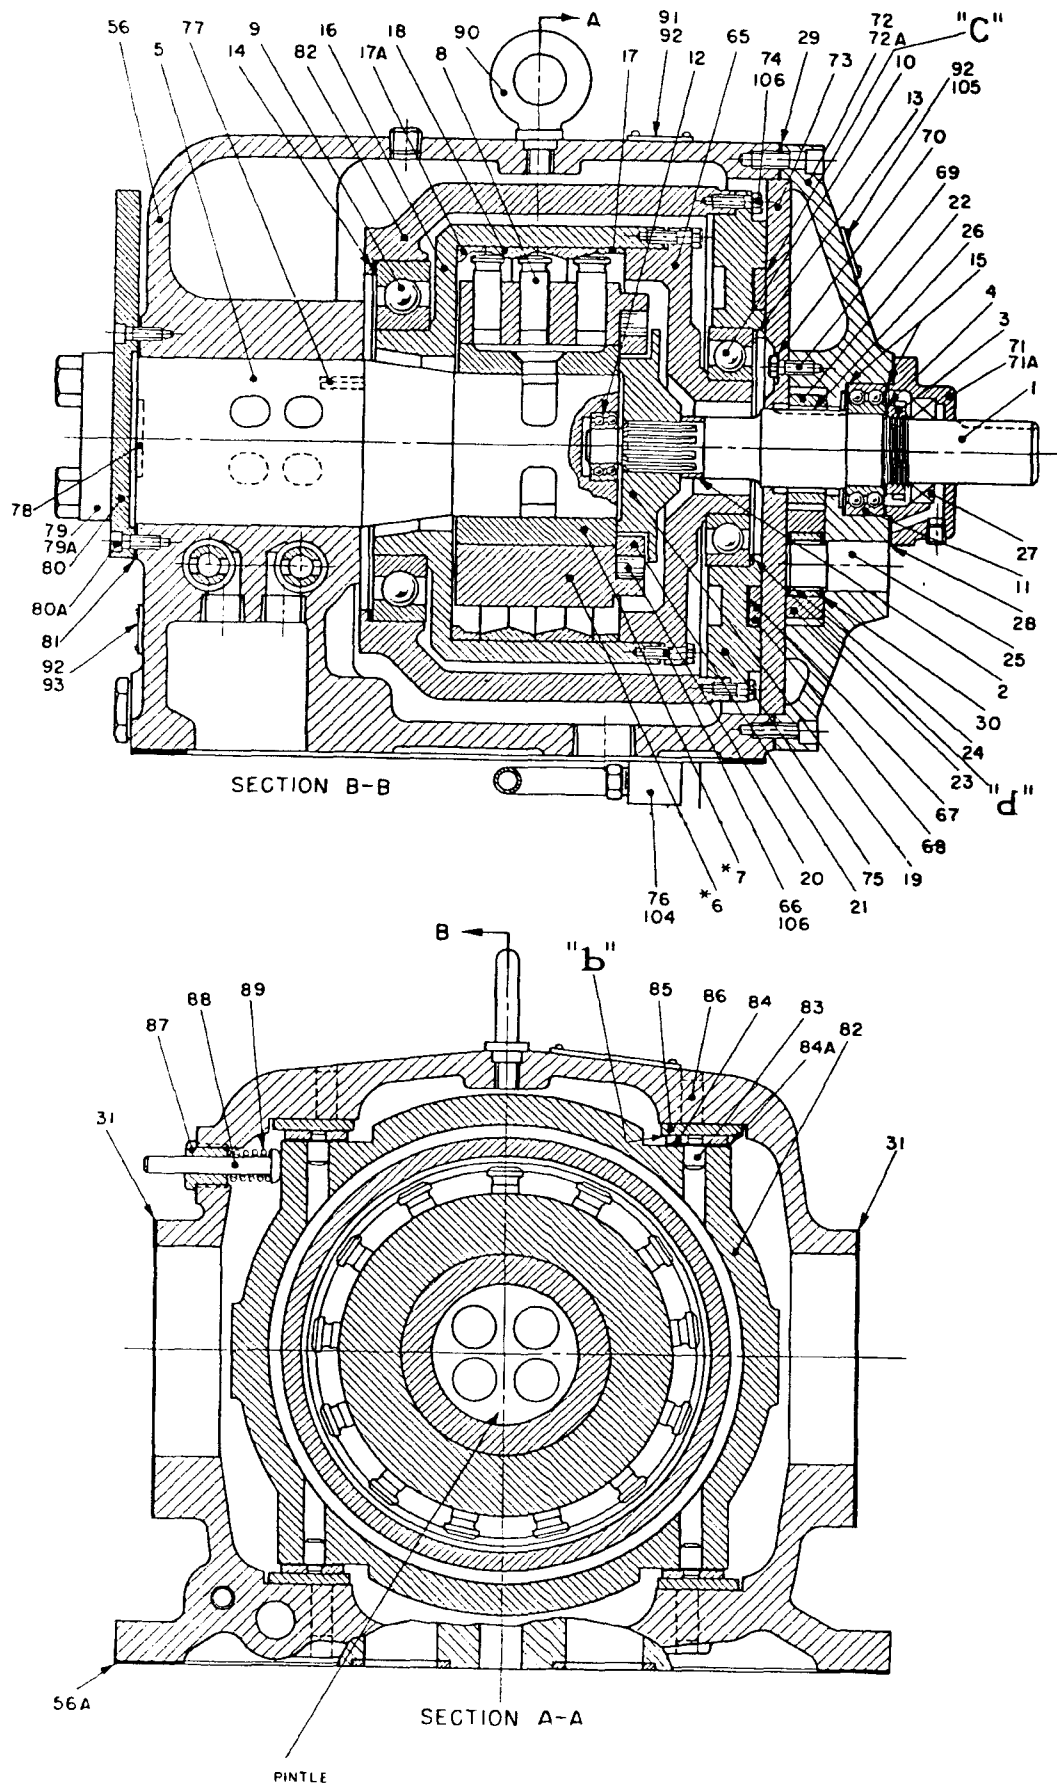

Figure 10. Parts Drawing, Oilgear Type "D" Units size 4 thru 60. DS-947916E (503293E)
If slideblock was removed, fit bronze case liners (85) to case and steel slideblock liners (84) on slideblock in their original positions (as marked). Insert shims (84A) if used, in their original positions. Lower slideblock into case and check liner clearance with a feeler gage (at point "b" of figure 10) to see if it is within tolerances given in IV-A-b. Hold slideblock central, top to bottom with pintle within 0.005". Shim under slideblock liner, if necessary. Slip spring (89) on indicator stem (88) and insert it in threaded end of bushing (87) and screw bushing into case.
Replace original rotor cover bearing shims (13) in slideblock cover (75) and bolt cover tightly in place. Measure the clearance between front rotor bearing and counterbore in cover with a feeler gage (at "d" of figure 10) for correct rotor end play. Add, or remove, shims until clearance dimension in IV-A-d is obtained. When obtained, secure slideblock cover screws (74) with soft iron locking wire (106). To adjust for correct slideblock end play (at "c" of figure 10), place slideblock shims (67) and slideblock spacer ring (68) on slideblock cover. See figure 18. Measure distance "k" from gear pump cover (73) to gasket face of gear pump housing (72). Subtract .008" from "k" resulting in "m" (k-.008=m). Measure distance "n" from end of case to face of spacer ring (68). Subtract "m" from "n" (n minus m). The difference should equal IV-A-c, add or remove shims (67) to obtain correct dimension.